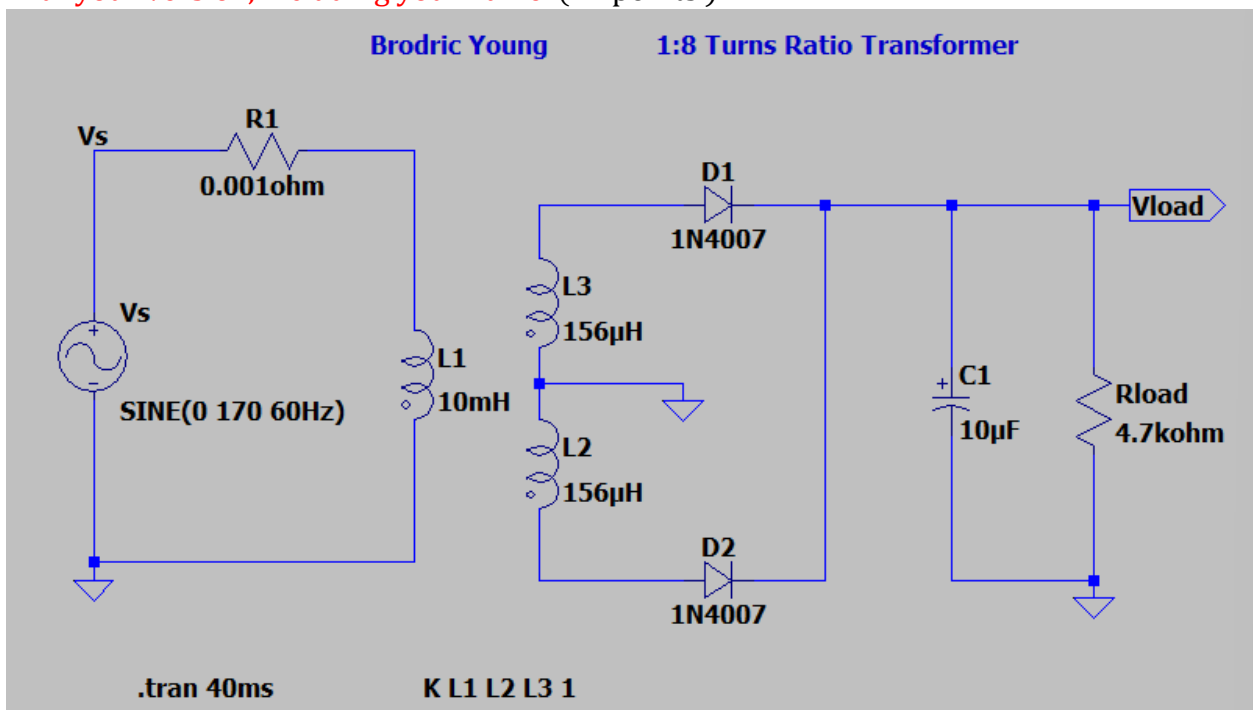

Figure 8. Full-Wave Rectifier Using A Center-Tapped Transformer.
1. Connect up the Full-Wave Rectifier utilizing a center-tapped transformer as shown below in **Figure 8**. The center-tapped transformer is to be included by placing three separate inductors, with inductance values given in **Figure 8**. On the **Edit** pull-down menu in the upper left-hand corner of the LTspice window, choose **.op** Spice Directive, which opens an edit pane in which to add the following inductor coupling information: **K L1 L2 L3 1**, which couples together inductors L1, L2 and L3, forming a transformer. Make sure your polarity dots on the coupled inductors are as shown in the figure for proper phasing. A step-down ratio of 8 is used in this lab to step-down from the 170 V peak to approximately 21 V peak. The step-down ratio in an LTspice transformer constructed from coupled inductors is controlled by the inductance ratios between the primary and secondary.
3. For practical rectifier circuits the output voltage ripple needs to be reduced from the rectified waveform illustrated in **Figure 7**, which is accomplished by the addition of filter capacitor, i.e., C_f in **Figure 8** below. Large value polarized electrolytic capacitors are often used for filter capacitors in rectifier circuits. The **polcap** in the main LTspice component library provides a polarized capacitor symbol.
5. When completed with your schematic, **replace the schematic shown in Figure 8 below with your version, including your name.** (12 points.)